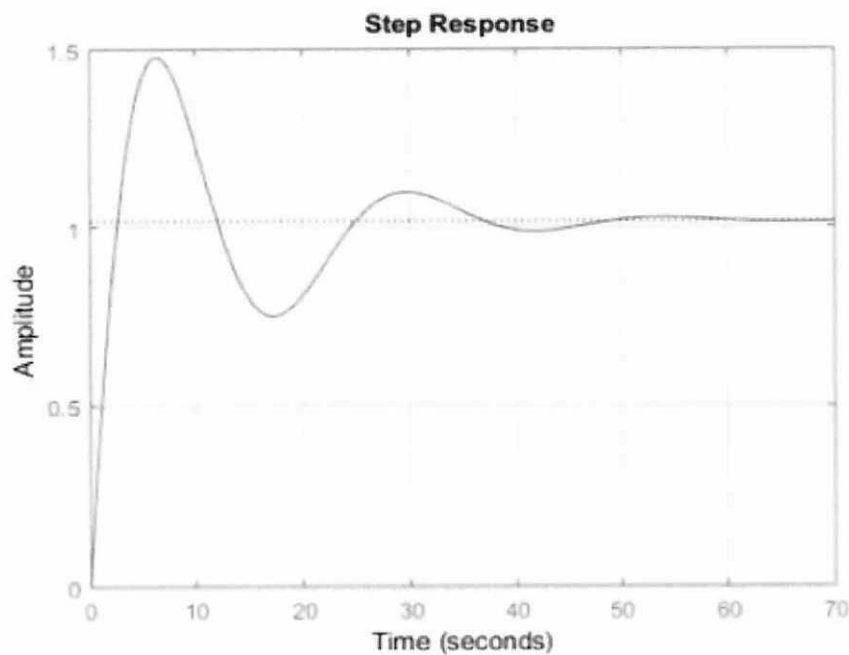

Figure 5(a)
- (i) Determine Overshoot, Rise time, Peak time, Settling time and Steady state error from **Figure 5(a)**. (5 marks)
- (ii) Explain the effects of implementing a Proportional Integral Controller (PID) in **Figure 5(a)**. (4 marks)
- (i) Give **one (1)** example of system that operates in sequential control mode. (2 marks)